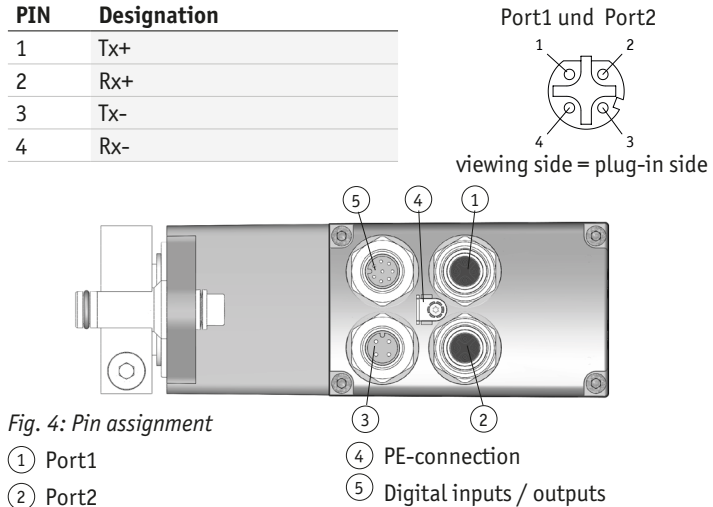
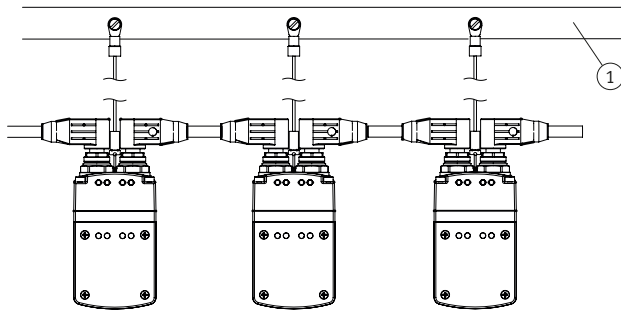

Fig. 4: Pin assignment
Fig. 8: Ground bar
- ① Port1: socket 4-pole M12 D-coded (Fig. 4).
- ② Port2: socket 4-pole M12 D-coded (Fig. 4).
- ③ Operating voltage 4-pole pin M12 A-coded (Fig. 4).
- ⑤ Digital inputs / outputs 8-pole pin M12 A-coded (Fig. 4).
To protect the unit against interference, the shields of the signal lines and power cables must be connected on both sides. Potential differences result in inadmissible currents on the shield. Put the PE connection ④ between the plug connectors on the ground wire potential (Fig. 4). Use 6.3 mm flat connectors with a short strand 2.5... 4 mm2 (not supplied). For multiple actuators we recommend that you connect grounding to a PE rail ① (Fig. 8).